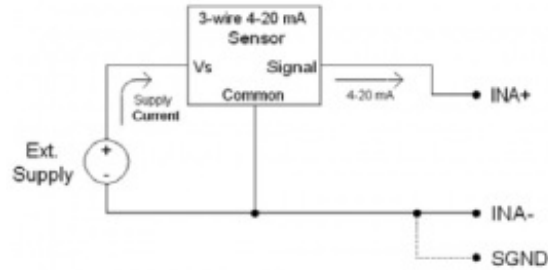

Figure 4: 3-Wire Sourcing Sensor w/ Ext. Supply
- Note the discussion above about having a common reference. When you are using external supplies (Figures 4, 6, 7 and 8), those supplies must be referred to LabJack GND. If the supplies are not already referred (the DC output of an AC-DC supply is usually floating), make one connection from the common/negative of each power supply to SGND or GND on the LJTCES or LabJack.